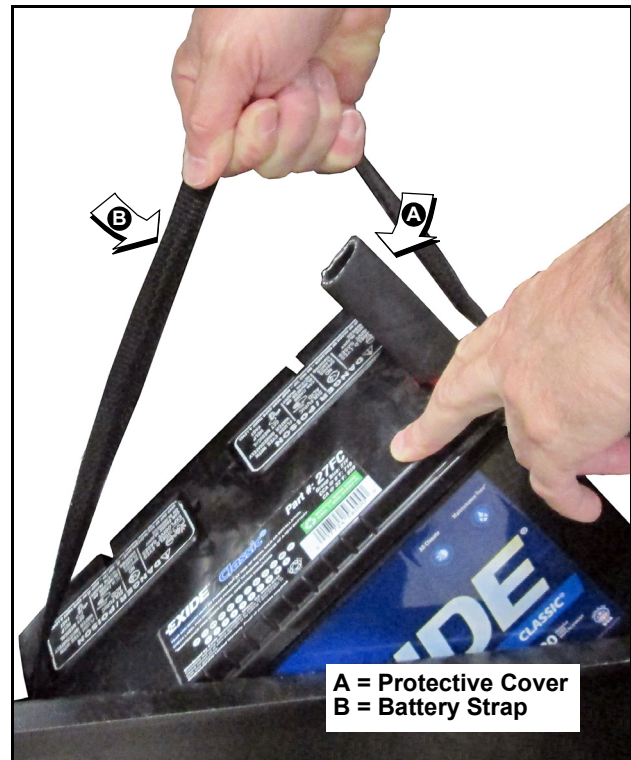

Figure 5-11. Remove/Install Battery
3. Install rubber protective cover over battery positive (+) terminal. See A of Figure 5-11
5. Grasp battery strap, and lift battery from battery tray. See B of Figure 5-11
1. Install rubber protective cover over battery positive (+) terminal. See A of Figure 5-11
2. Grasp battery strap and lift battery. See B of Figure 5-11